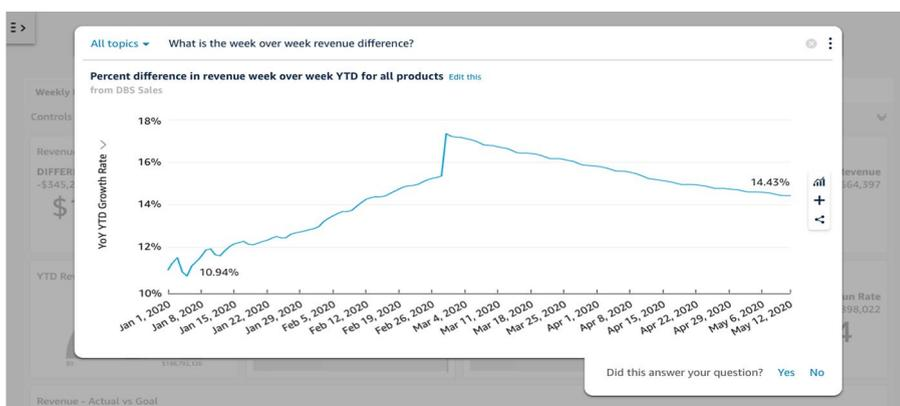

Figure 6-39. Generating visuals based on questions asked in natural language
- **Ask questions in natural language:** ML models interpret user questions and intent to generate visualizations, simplifying the data exploration process. Figure 6-39 shows an example.